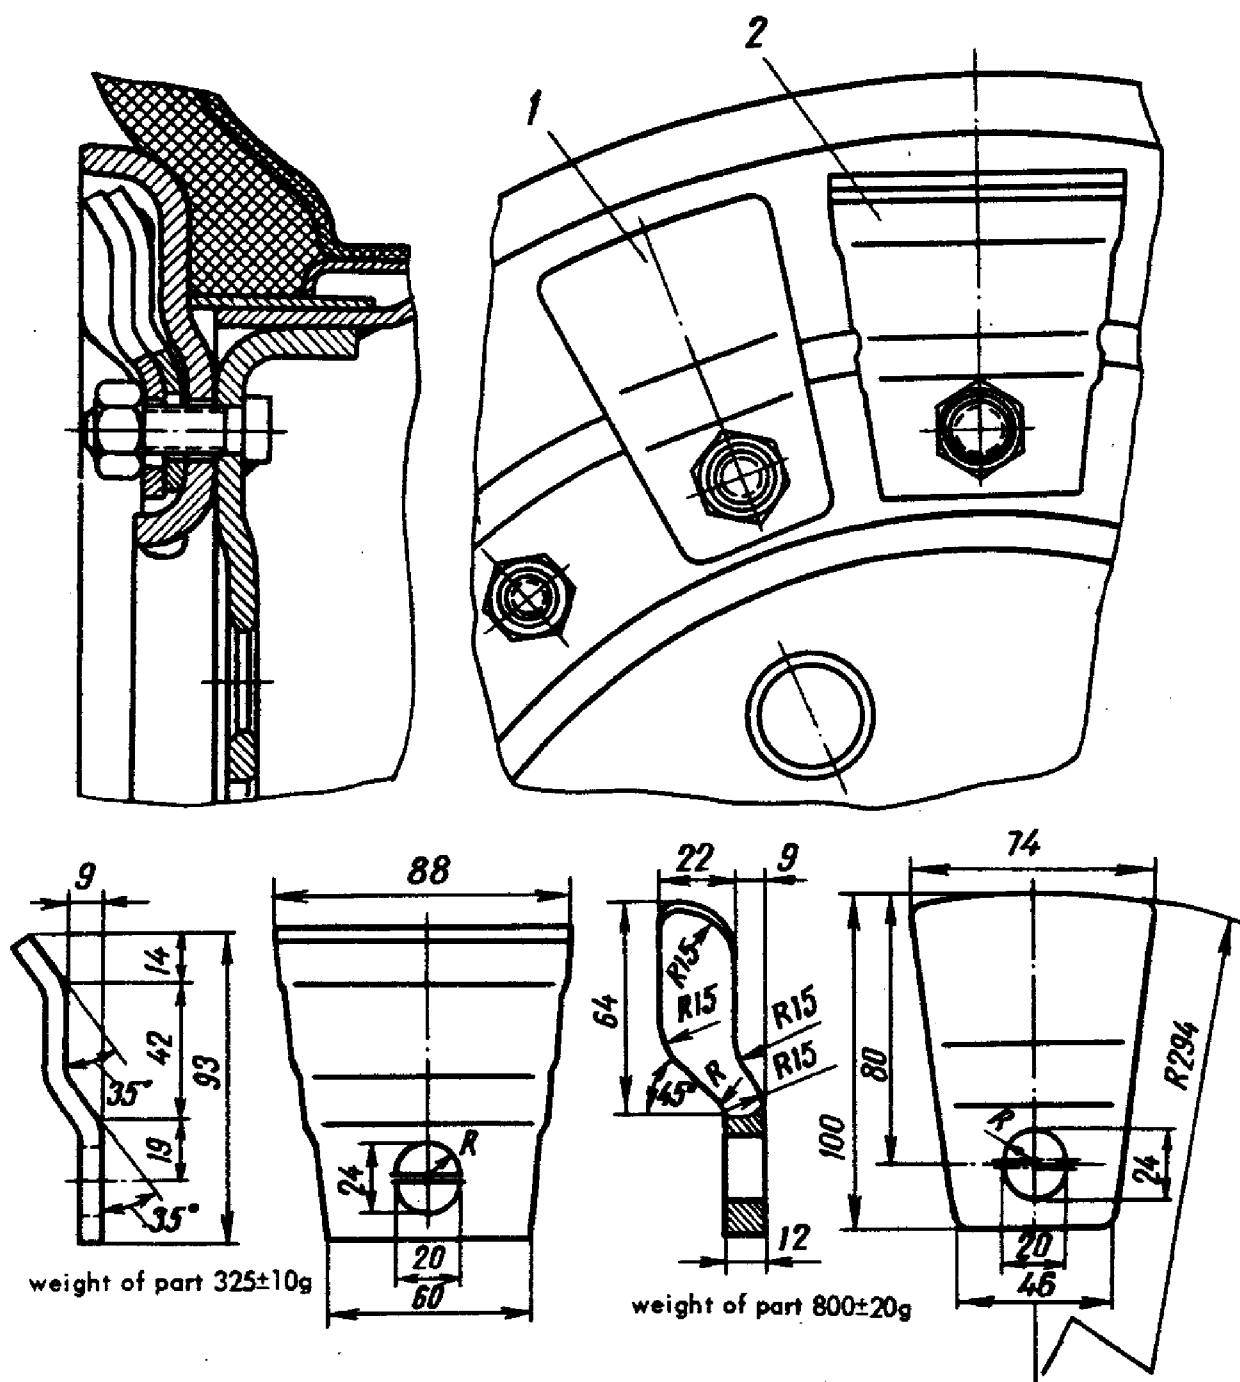

FIG.52. FITTING BALANCING WEIGHTS AND THEIR SIZES
10. Install a needed number of balancing weights on the side ring bolts located in the lightest place of the wheel (Fig.52).